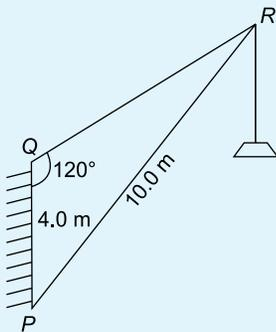

Figure 1.7
- In Figure 1.7,  $PR$  represents the inclined jib of a crane and is 10.0 m long.  $PQ$  is 4.0 m long. Determine the inclination of the jib to the vertical (i.e. angle  $P$ ) and the length of tie  $QR$ .